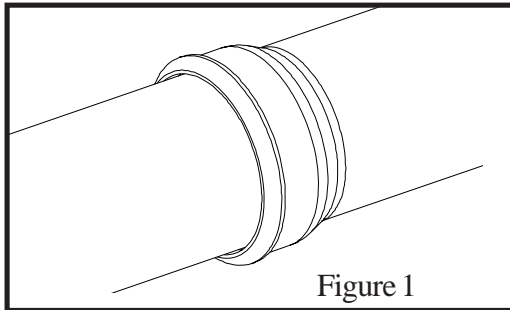

Figure 1
- Wrap gasket around pipe with beveled side facing away from bell face. (See Figure 1)